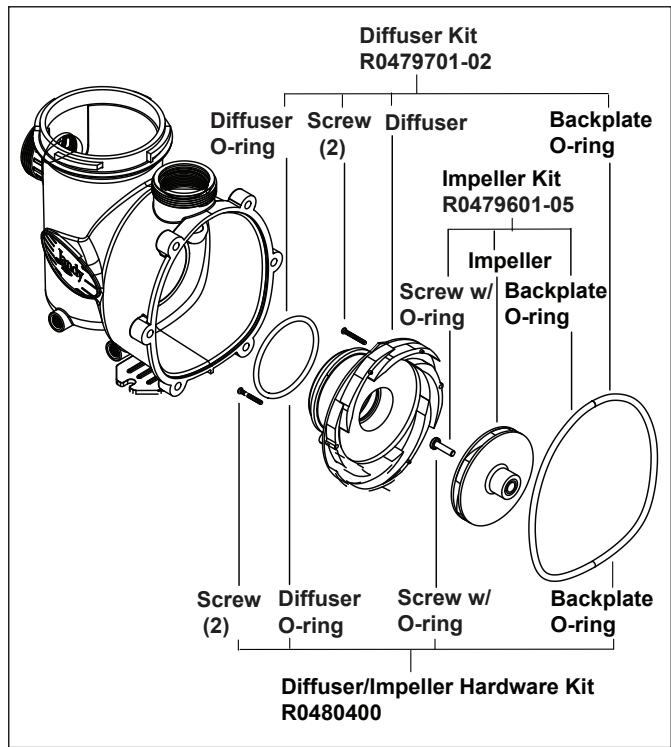

Figure 2. Impeller and Diffuser Replacement Kits
1. Refer to Figure 2 and the associated parts list to identify the parts included in each replacement kit.